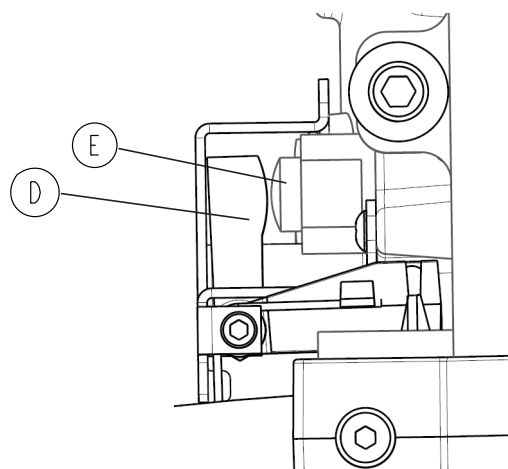

Figure 35 – Visible gap
14. Make sure that there is a visible gap between the manual release finger (D) and the manual release valve (E) (Figure 35).